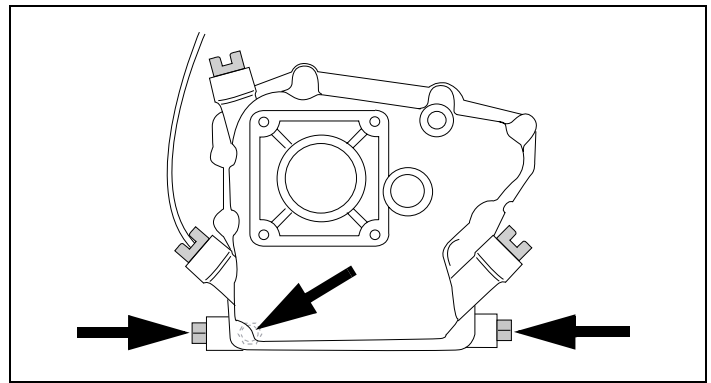

Figure 21. Possible Oil Drain Plug Locations
4. Clean area around oil drain plug. See Figure 21.
6. Remove oil drain plug and drain oil into approved container. See Figure 21.